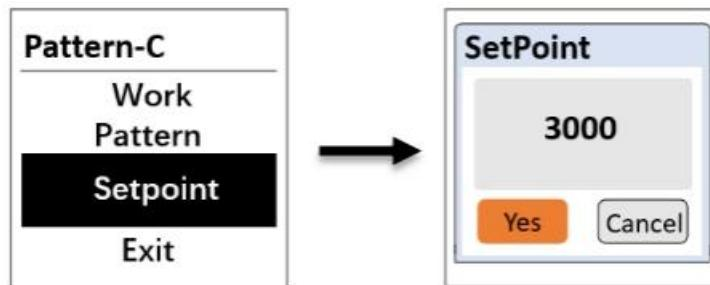

Figure. 6 - Flow Control (C) Operating Mode with User Defined Setpoint
When Flow Control Mode (C) is selected, a user defined flow rate setpoint must be entered (Figures 6 & 7). The FS-100 will automatically control the regulating valve according to the preset flow rate with an internally calculated PID algorithm.